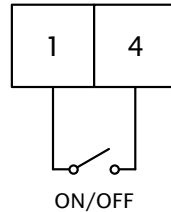

Figure 6.9: Two-wire Control
2. Wire one of the 2-wire SPST switches between terminals 1 and 4, as shown in Figure 6.9.